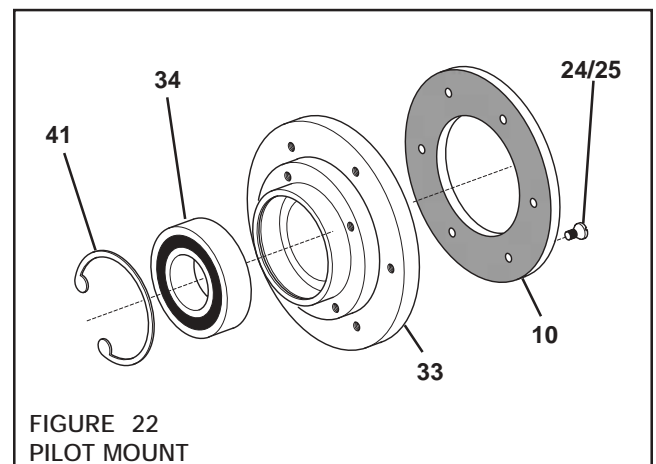

FIGURE 22
3. Clean the bearing bore of the Sheave (Item 12) or Pilot Drive Disc (Item 33) with fresh safety solvent, making sure all old Loctite® residue is removed (See Figure 22).